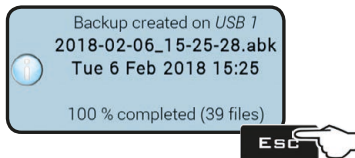

Fig. 302
- A confirmation message (Fig. 302 / Fig. 303) appears once the saving is completed. Press **ESC**.